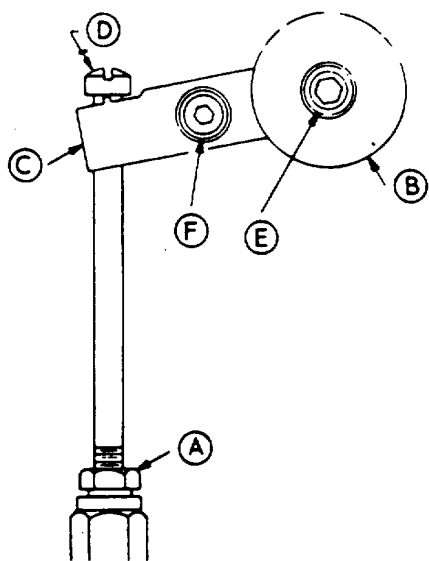

FIGURE 99
- (c) See Figures 99 and 100. Loosen locknut A.
- (d) With pedal up, lift Brake Cam B (Figure 99) as far as possible; adjust Screw D so that screw head just contacts ridge on Lever C and tighten Locknut A. (This should be a one-time adjustment.)